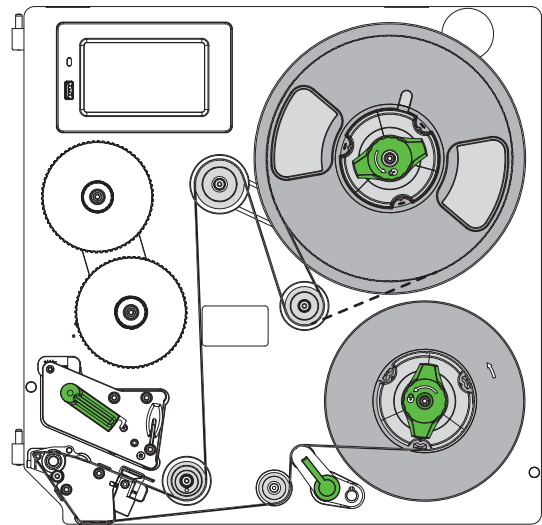

Figure 13 Label feed path
1. Turn lever (4) counterclockwise to lift the printhead (2).
3. Guide label strip (5) to the print unit as shown in Figure 13. The broken line shows the path for inside wound labels.
4. Guide label strip through the label sensor (3) to the peel-off edge.
5. Forward the label strip over the peel-off edge (1), that the strip reaches back internal rewriter. Remove the labels from the overhanging strip.